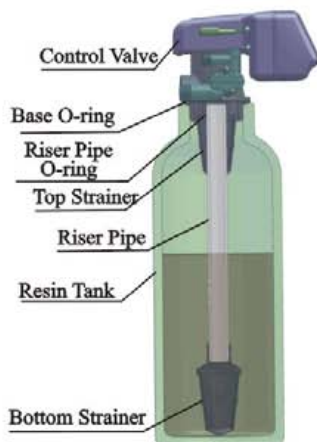

Figure1-1
a. As the Figure 1-1 shows, select the riser pipe with 26.7mm OD, glue the riser pipe to the bottom strainer and put it into the mineral tank, cut off the exceeding tube out of tank top opening. Plug the riser tube in case of mineral entering.